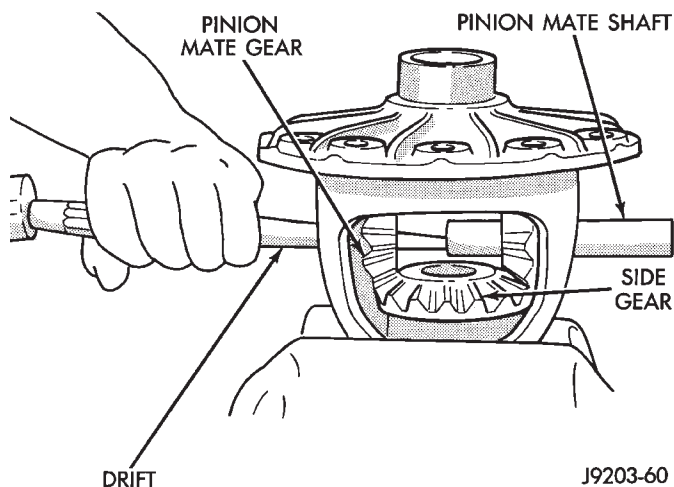

Fig. 31 Mate Shaft Removal
(5) Remove the mate shaft with a drift and hammer (Fig. 31).